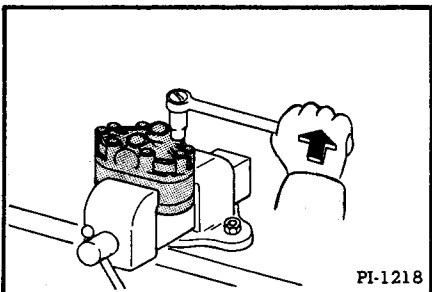

Fig. 143 Removing the Cap Screws
3. Clamp the pump in a vise, shaft down. Remove the cap screws which hold the pump plates together (Figure 143).